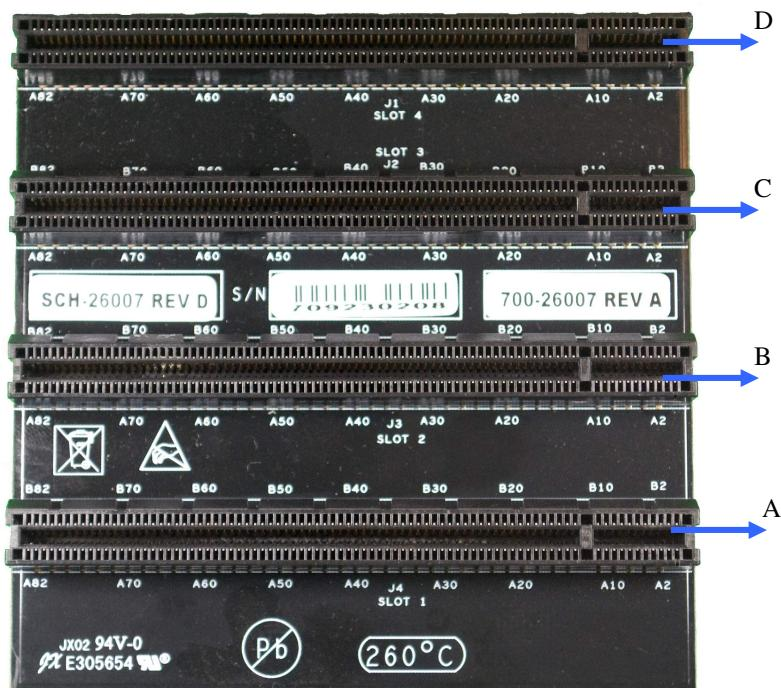

Figure 5 - TWR-ELEV Secondary
- Attach the TWR-ELEV Secondary side of Slot 4 (J1, see D of Figure 5 - TWR-ELEV Secondary) to secondary side of TWR-MCF54418 and Slot 3 (J2) to secondary side of TWR-SER1